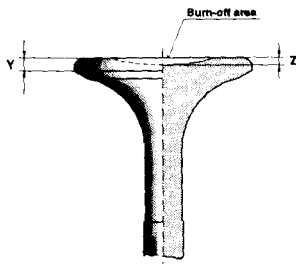

Fig 12-56
- 2** Control the burning-off on the valve disc according to the sketch in fig. 12-56. The measure "Y" should be more than 5mm (nominal 6 mm) and measure "Z" should be less than 2mm. If the measures exceed these limits the valve must be replaced.